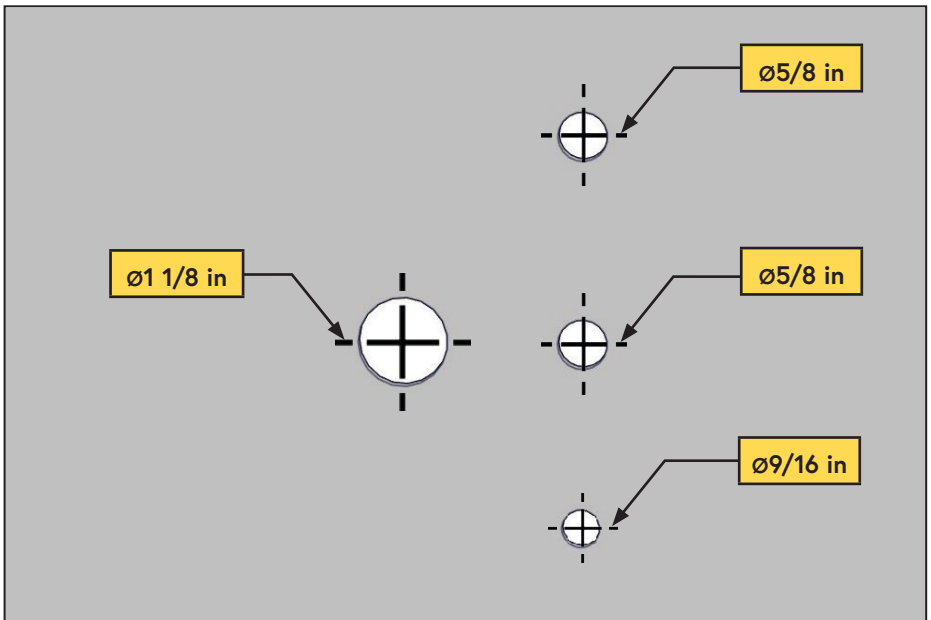
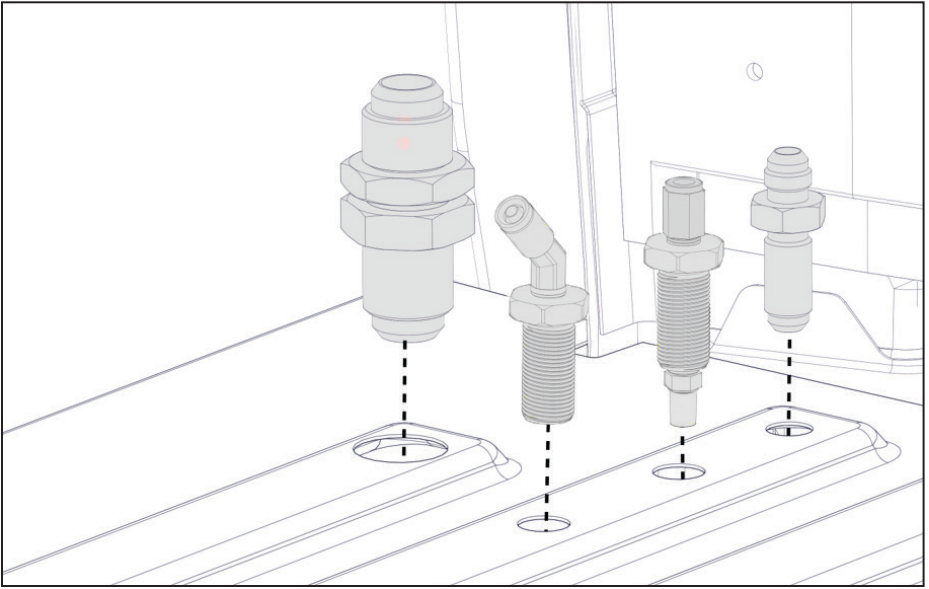
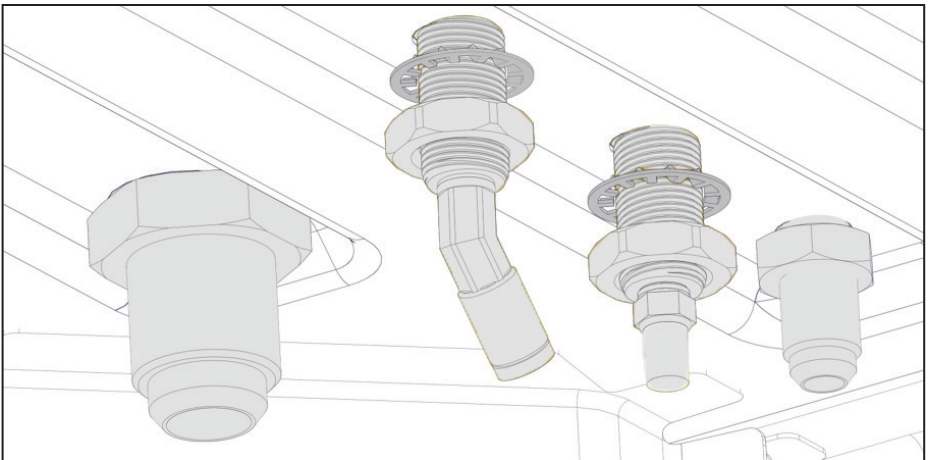

Figure 22 — Hole diameter
Figure 23 — Interior View
Figure 24 — Exterior View
- Drill the bulkhead fitting holes using a drill, step drill or hole saw. Leave enough room between the fittings to allow access for a wrench (Figure 22, Figure 23, Figure 24):
- Fit the bulkhead fittings through the top of the hole and secure from the bottom with the supplied nuts. Apply Loctite 567 (thread sealant) when installing the 1/4 in push-to-connect fittings in the bulkhead fittings (Figure 23, Figure 24).